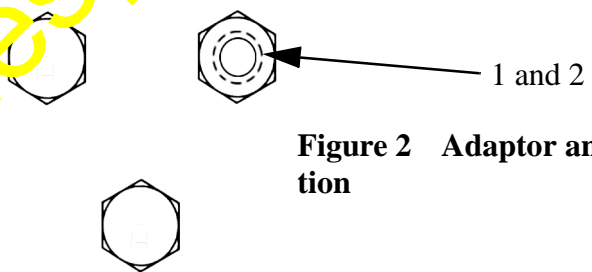
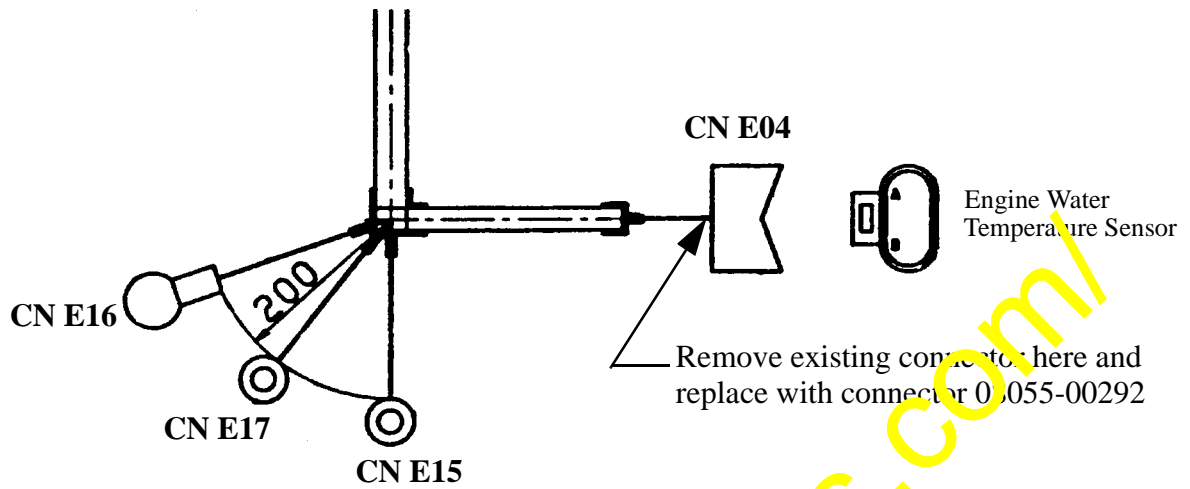

Figure 2 Adaptor and O-ring Installation
Figure 3 Engine Wire Harness Connector Replacement
5. As shown in figure 2, install adaptor (1) and o-ring (2) into port where the sensor was removed. Tighten adaptor to 127.4 to 176.4 Nm (94.0 to 130.2 ft. lbs.).
6. Apply LT-2 (loctite grade 2) to new sensor (3) threads, then install in adaptor. Tighten sensor to 35.1 to 42.9 Nm (25.3 to 31.1 ft. lbs.).
7. Referencing figure 3, replace engine wiring harness connector.